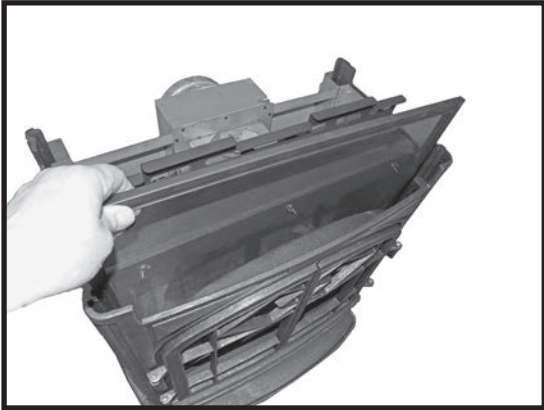

Fig. 93: Mesh barrier removal
2. The screen mesh and glass barrier will need to be removed so as to gain access to the front and side panel bolts. Raise the mesh screen, hold down bracket and remove the mesh barrier. (Fig. 93)